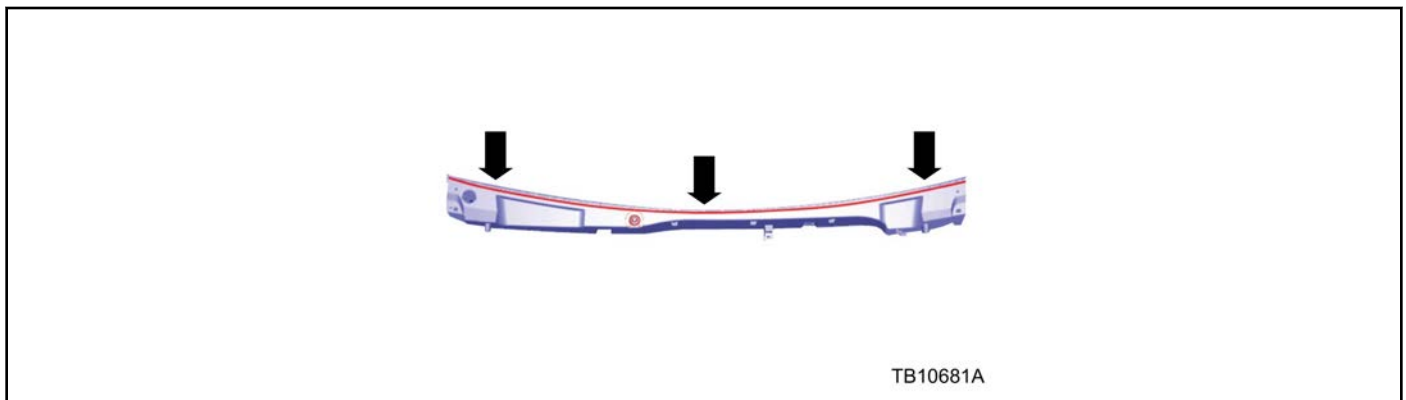

Figure 1 - Article 17-0014
4. Clean the back of the cowl panel grille with a clean cloth. (Figure 1)
5. Apply the leaf screen foam seal along the back of the cowl panel grille. (Figure 1)